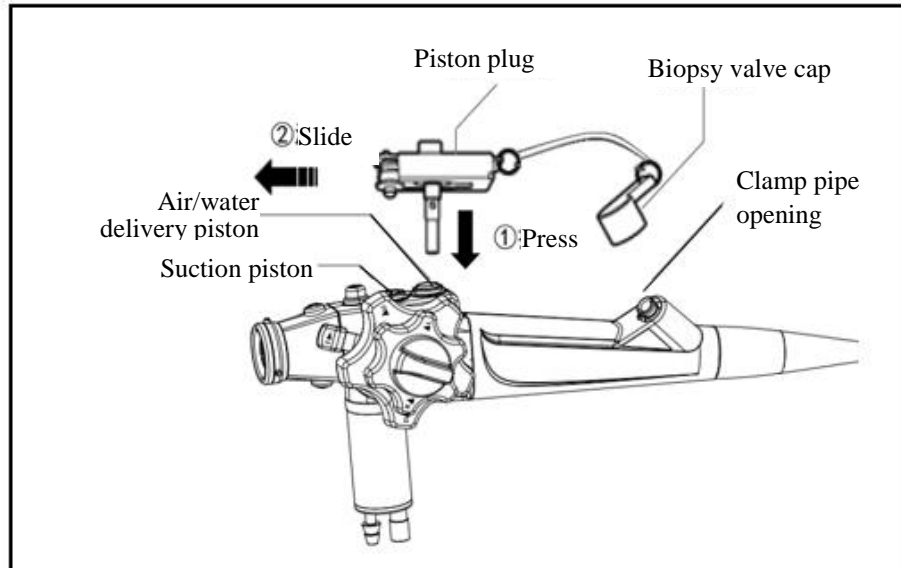

Figure 7.20
1. Install the biopsy valve cap onto the tube plug to the clamp pipe opening (as shown in Figure 7.20).
2. Install the piston plug of the tube plug on the air/water delivery and suction interfaces (as shown in Figure 7.20).
3. Press the plug of the operation section of the endoscope and slide the plug to the end (as shown in Figure 7.20).
1. Install the tube plug and the perfusion tube into the endoscope. Insert the suction interface of the perfusion tube into clear water. Install the biopsy valve cap of the tube plug to the clamp pipe opening (as shown in Figure 7.20).
6. A 50 cm³ (50 mL) syringe is used to inject 150 cm³ (150 mL) of air into the air/water delivery and suction tubes respectively through the perfusion tube (as shown in Figure 7.20).
cap of the tube plug to the clamp pipe opening (as shown in Figure 7.20).